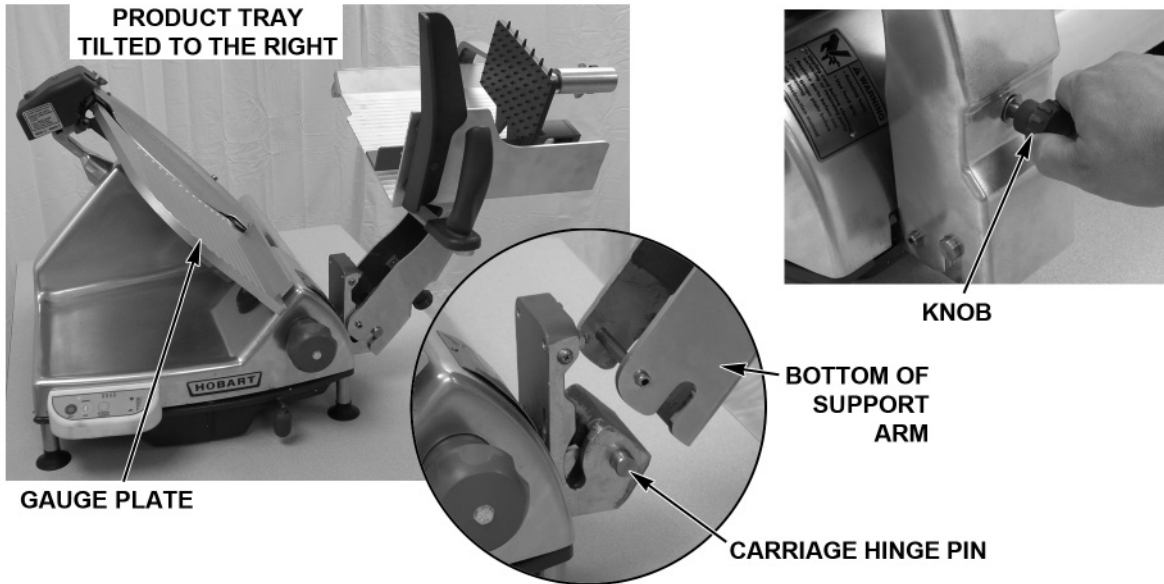

Fig. 23
- Lower the bottom of the Support Arm onto the Carriage Hinge Pins (Fig. 23).